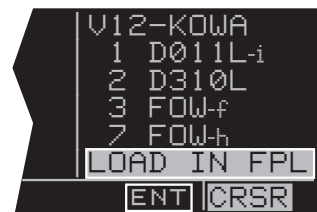

Figure 6-24
3. The KLN 900 knows that this point is associated with a DME arc. Once an arc waypoint is chosen, the KLN 900 determines what radial of the reference VOR the aircraft is presently located on. A waypoint is created that is located at the intersection of the present radial and the DME arc. This waypoint is the first waypoint in the list of waypoints presented on the APT 8 page before loading the approach into the flight plan (figure 6-24). This waypoint is named using the same convention discussed earlier.